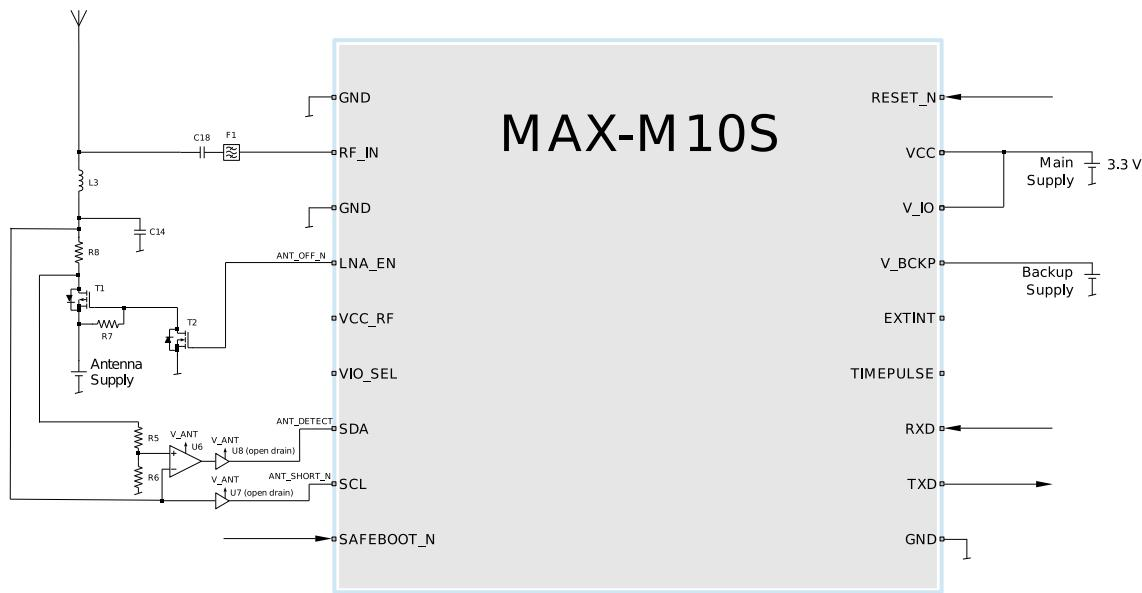

Figure 39: 3-pin antenna supervisor design
- A passive or active antenna can be used. An active antenna can be supplied either with the VCC\_RF output from MAX-M10S, as shown in Figure 38, or from an external supply, as shown in Figure 39. Nevertheless, the internal LNA provides enough gain for passive antennas.
Figure 38 and Figure 39 show a reference design for a 2-pin and 3-pin antenna supervisor design respectively. Here are some key features:
- UART and I2C communication interfaces are available. I2C PIOs (SDA and SCL) can be used in a 3-pin antenna supervisor design as shown in Figure 39. In this case, the I2C interface needs to be disabled before assigning the new function to the PIOs.
The 3-pin antenna supervisor configuration required for the Figure 39 reference design is listed in Table 36.